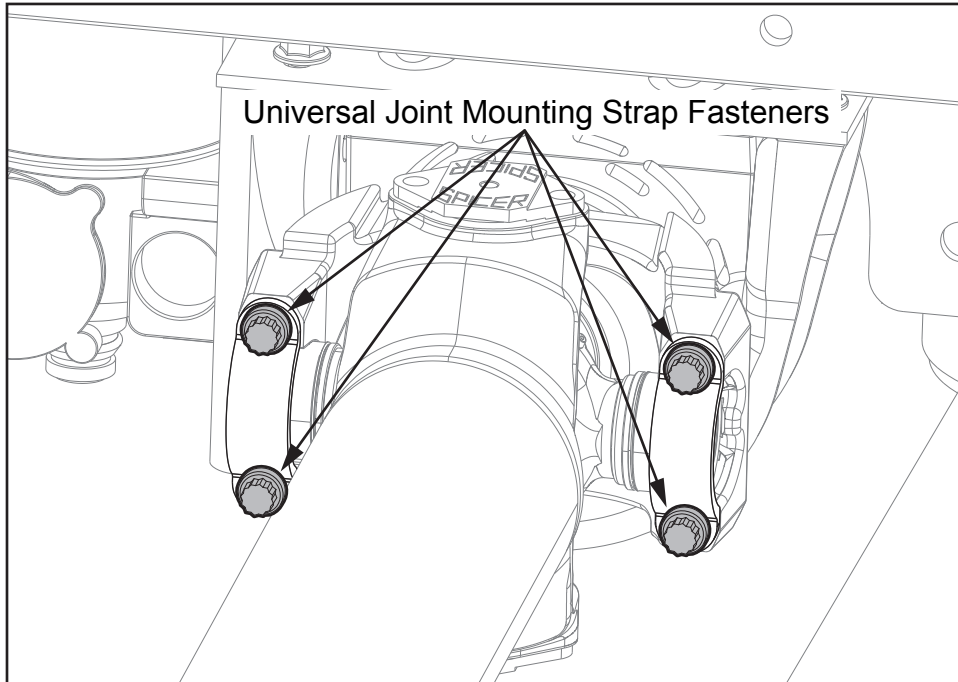

Figure 8, ACX / DC vehicles universal joint fasteners
10. For all affected ACX and DC vehicles, locate any additional universal joint mounting strap fasteners and tighten to 125 Lbs-ft of torque (see *Figure 8*).